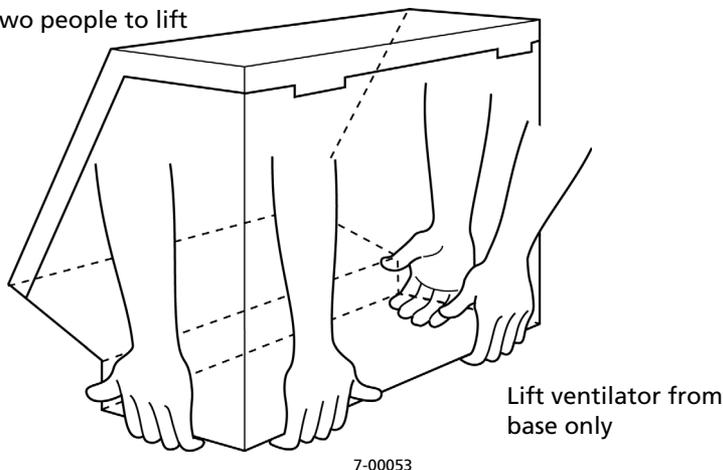

Figure 2-1. Lifting the ventilator
- To avoid tipping or damaging the ventilator, do not stack other equipment on the ventilator. 700 Series Ventilators are designed to be mounted on either a cart or a shelf by a qualified service technician. When lifting the ventilator, lift from the base, and use assistance and appropriate safety precautions. Figure 2-1 shows proper lifting technique.